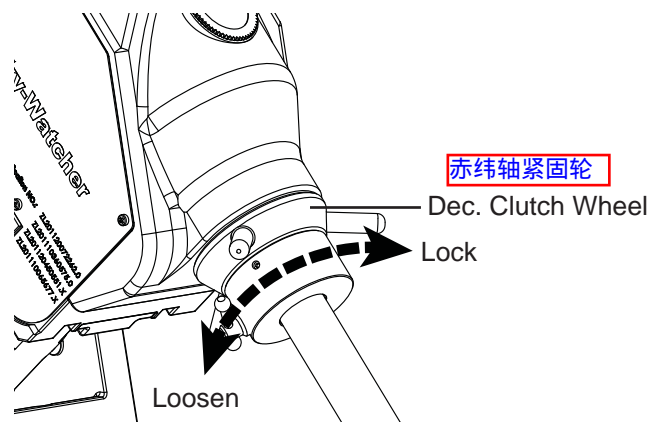

Fig. 2.1b
3. Release the Dec. clutch wheel to manually rotate the Dec. axis. (Fig. 2.1b) 3. 松开赤纬轴紧固轮以便能够手动转动赤纬轴（见图2.1b）